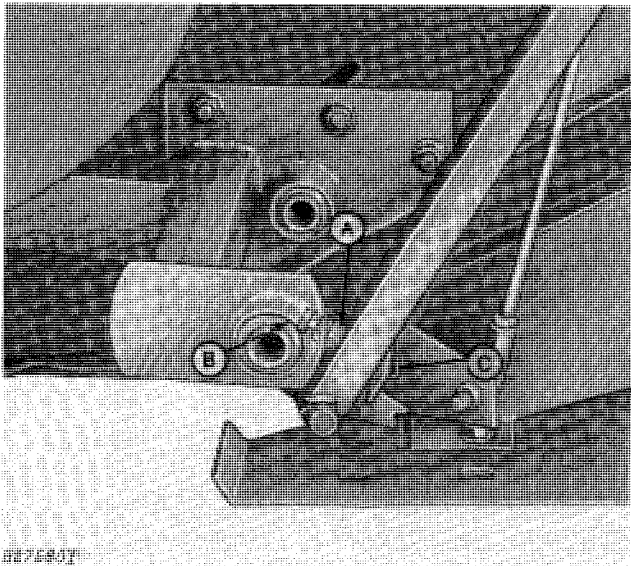

Fig. 118-Adjusting Range Indicator
2. Lower platform all the way to the ground. Loosen lock nut (A) and turn adjusting screw (B) until screw touches stop (C) (Fig. 118). Red range indicator ball must be centered on (0) or zero.